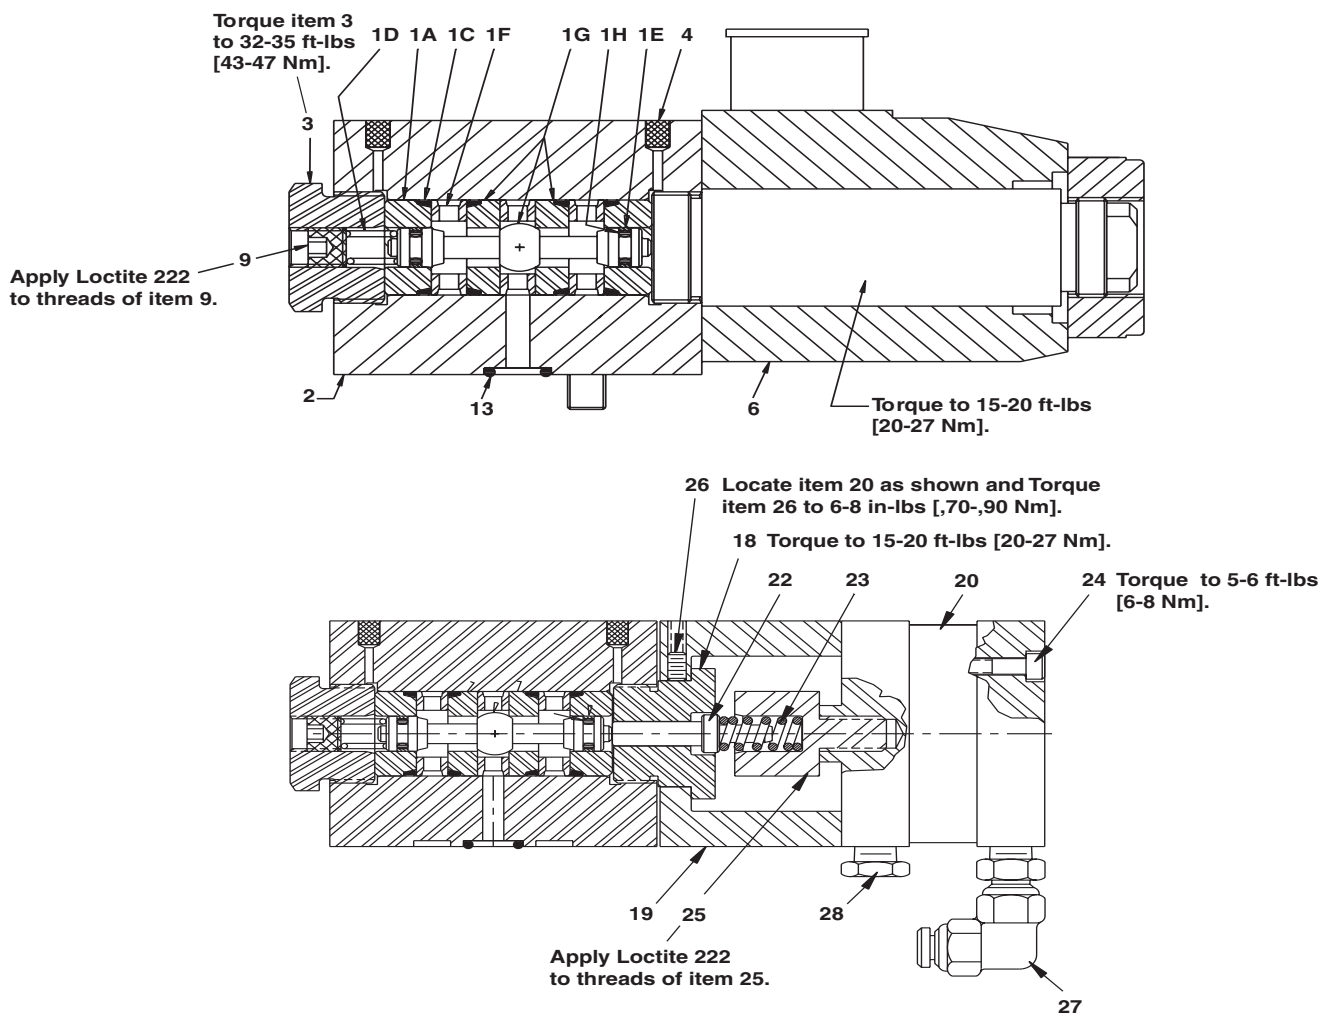
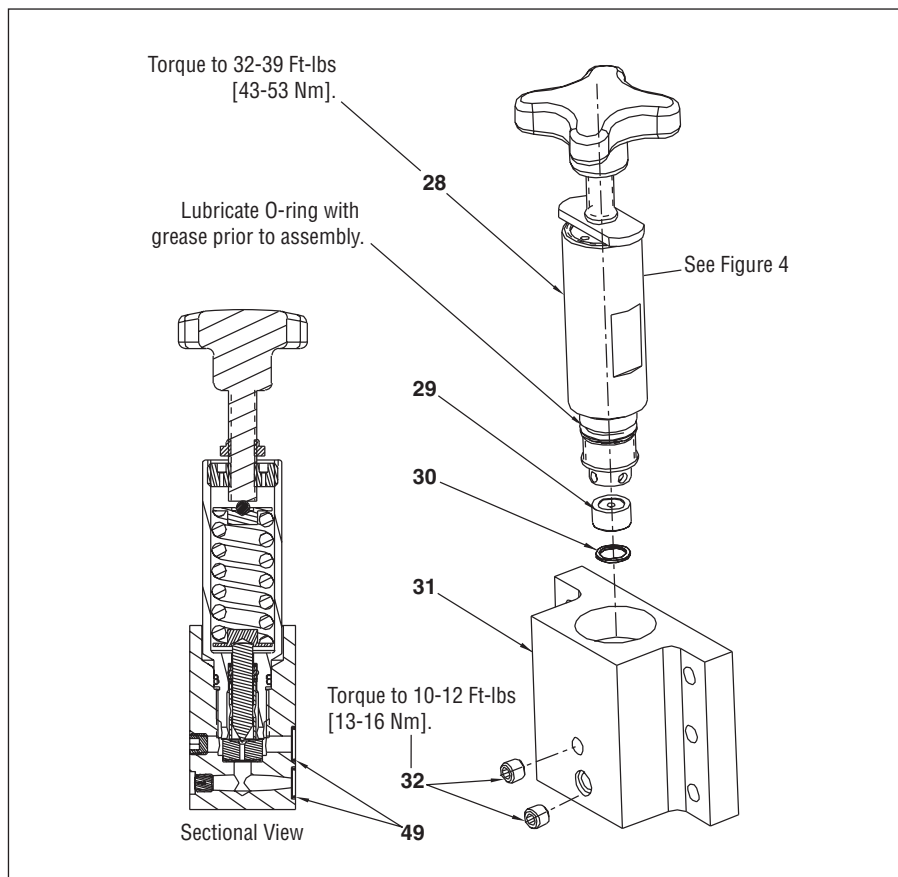
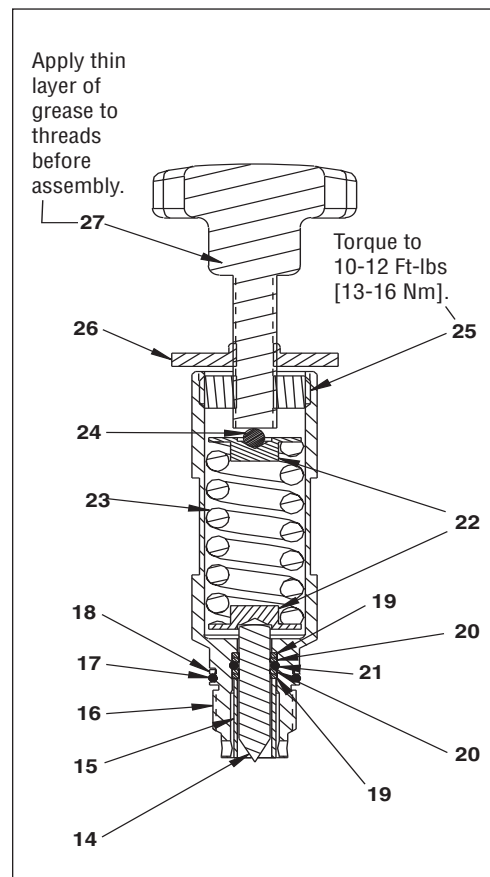

Figure 2, Poppet Valve Assembly
Figure 3, Relief Valve Assembly
Figure 4, Relief Valve Subassembly (item 28)
Repair Parts List for Figure 2
Repair Parts List for Figures 3 and 4
(DC6384950SR includes all items shown in Figures 3 and 4.)
1. Inability to obtain any pressure may be the result of damaged connector seals, or failed relief valve components (items 14, 29, 30, figures 3 and 4), or an indication that the valve stack (item 1, figure 2) needs to be rebuilt. These problems are usually a symptom of contaminated hydraulic oil. The system should be drained and refilled with fresh ENERPAC hydraulic oil.
3. Ball seat leakage is often erratic and intermittent and is caused by contaminants trapped on the sealing edge. Over time, as wear occurs, valve stack (item 1, figure 2) will need to be replaced.
4. Leakage observed on the external surfaces is an indication that O-rings (items 44, 45, figure 1; item 13, figure 2; item 49, figure 3; item 17, figure 4) and back-up ring (item 18, figure 4) may need replacement.
2. Inspect the three O-rings (item 13, figure 2) for damage such as nicks, cuts or extrusion of material. Replace if necessary.
3. Remove set screw (item 9, figure 2) and valve plug (item 3, figure 2).
4. Electric valves only: Remove solenoid stem (item 6, figure 2).
Air actuated valves only: Disassemble and remove air actuator assembly (items 18-20 and 22-28, figure 2).
5. Disassemble and inspect valve stack (items 1A - 1H, figure 2).
6. Inspect O-rings (item 1H, figure 2) and Glyd Rings (item 1E, figure 2) for damage such as nicks or cuts. Replace if necessary.
Note: Poppet set (item 1G, figure 2) is a matched subassembly. It is available only as a pre-assembled component.
7. Inspect the bore in the body (item 2, figure 2) for damage such as scratches, nicks or wear. Replace if necessary.
2. Remove the knob (item 27, figure 4) from the relief valve subassembly and remove the ball (item 24, figure 4).
3. Remove the O-rings (item 49, figure 3) and inspect for damage. Replace if necessary.
4. Remove the relief valve subassembly (item 28, figure 3) from the relief valve body (item 31, figure 3).
5. Remove the seat (item 29, figure 3) from the body. Inspect the seat for damage such as nicks or dents on the sharp edge of the internal diameter. Replace if necessary.
6. Remove the pipe plugs (item 32, figure 3) and clean the body. Inspect body for damages and replace if necessary.
7. Remove piston, guide, spacer, back-up ring, O-ring (items 14, 15, 19, 20, 21, figure 4) and inspect for damage. Replace if necessary.
8. Remove O-ring and back-up ring (items 17, 18, figure 4) and inspect for damage. Replace if necessary.
9. Remove cap (item 25, figure 4) from the body (item 16, figure 4).
10. Remove guides (item 22, figure 4) and spring (item 23, figure 4).
1. Install new pipe plugs (item 32, figure 3) into relief valve body (item 31, figure 3) and torque to 10-12 ft-lbs [13-16 Nm].
2. Install copper gasket (item 30, figure 3) onto seat (item 29, figure 3), with round edges facing away from the seat.
3. Place seat (item 29, figure 3) onto the bottom counter bore in the relief valve body, with the gasket side down.
4. Install spacers, back-up rings and O-ring (item 19, 20, 21 figure 4) onto piston (item 14, figure 4).
5. Grease spacers, back-up rings and O-ring (items 19, 20, 21, figure 4) and insert the piston (item 14, figure 4) into the body (item 16, figure 4).
6. Insert guide (item 15, figure 4) over piston and force spacers, back-up rings, and O-ring up against the bottom of the bore in the body (item 16, figure 4).
7. Install spring and spring guide (items 22, 23, figure 4) into bore in the opposite end of the body.